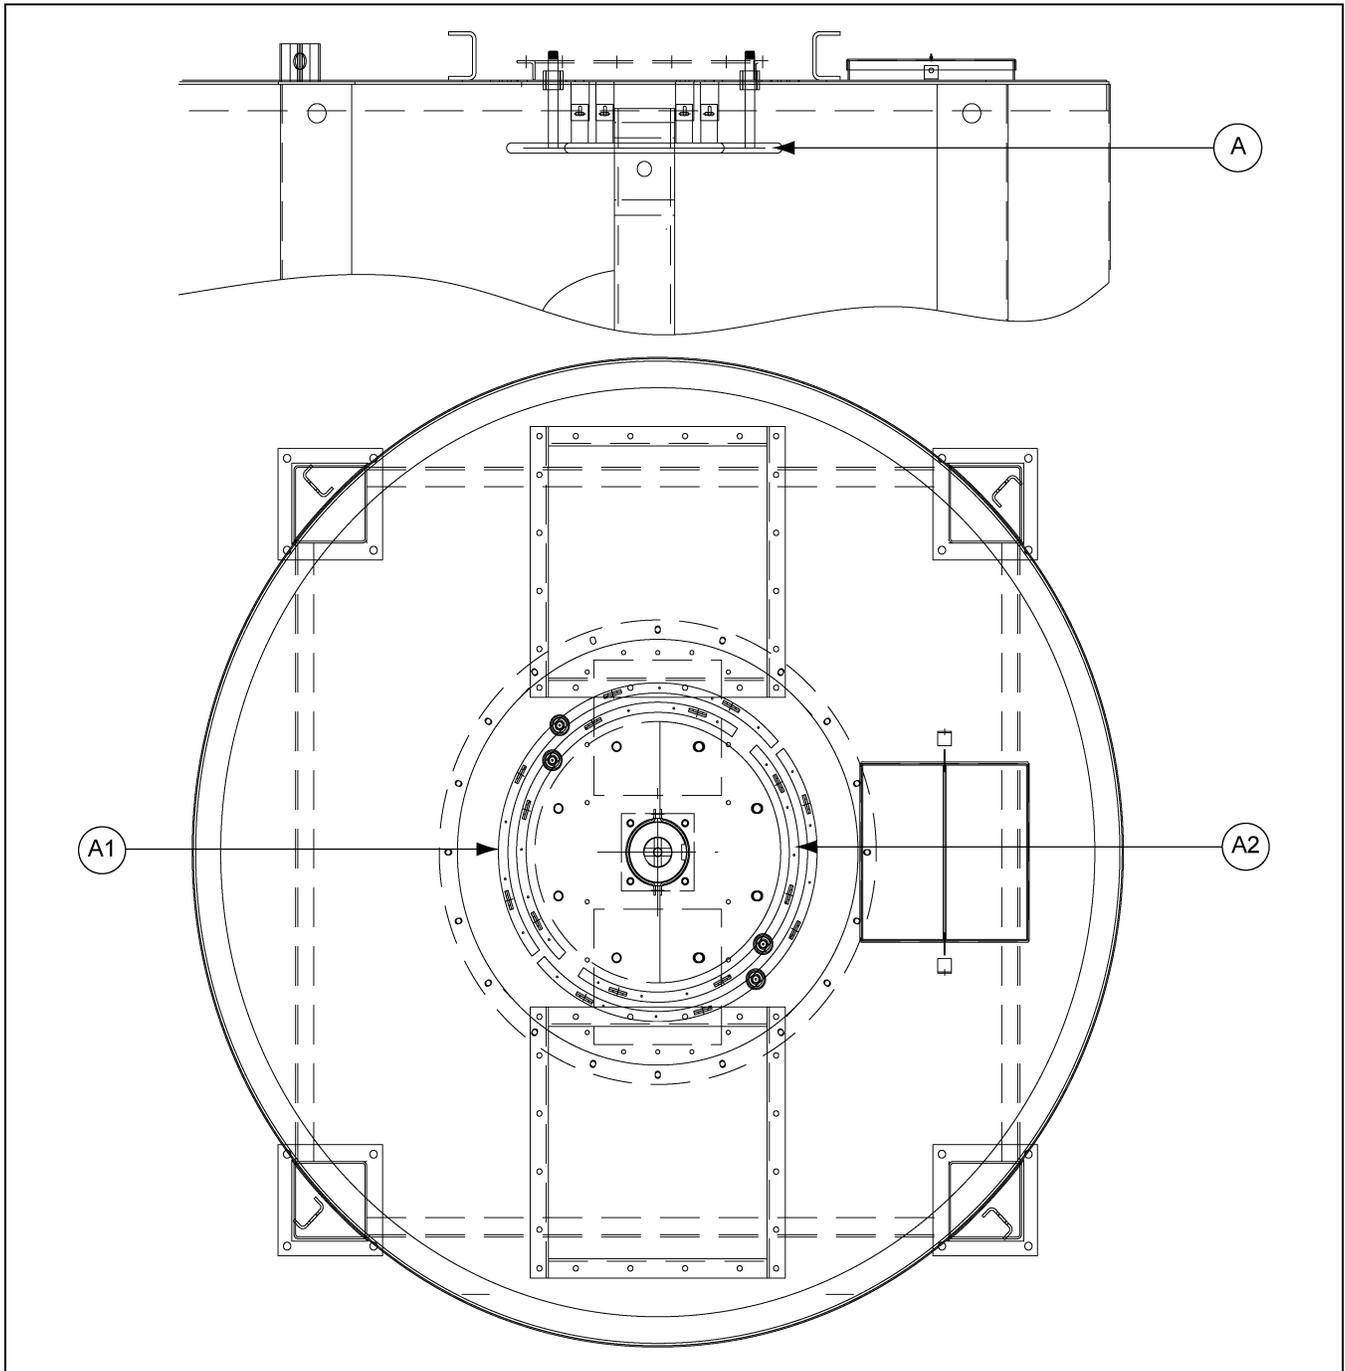

Figure 6A Chemical Rings
Assemble the chemical ring kit (A), which includes two (2) large injection rings (33.95") (A1) and two (2) small injection rings (29.95") (A2) together. These rings will be mounted to the top plate of blender as shown in Figure 6A.